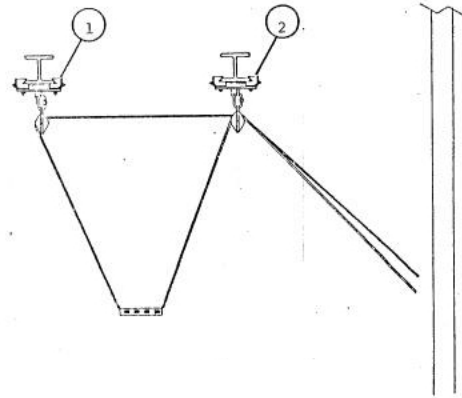

FIGURE 3
5. Referring to Figure 3, install beam clamp, quick link and single pulley assembly (1) in the appropriate location on the beam. Be sure all beam clamp fasteners are securely tightened. If pulley is not perpendicular to beam, loosen quick link and insert it in the other hole in angle iron. Be sure to tighten quick link securely.
7. Install beam clamp, quick link and double pulley assembly (2). Ensure all fasteners are securely tightened and recheck them. If pulley is not perpendicular to beam, loosen quick link and insert it in the other hole in angle iron. Be sure to tighten quick link securely.
8. Thread plain end of suspension rope from beam clamp assembly (1) through beam clamp (2) double pulley and let it hang to floor. Insert plain end of other suspension rope into the other side of double pulley and let it hang to floor.